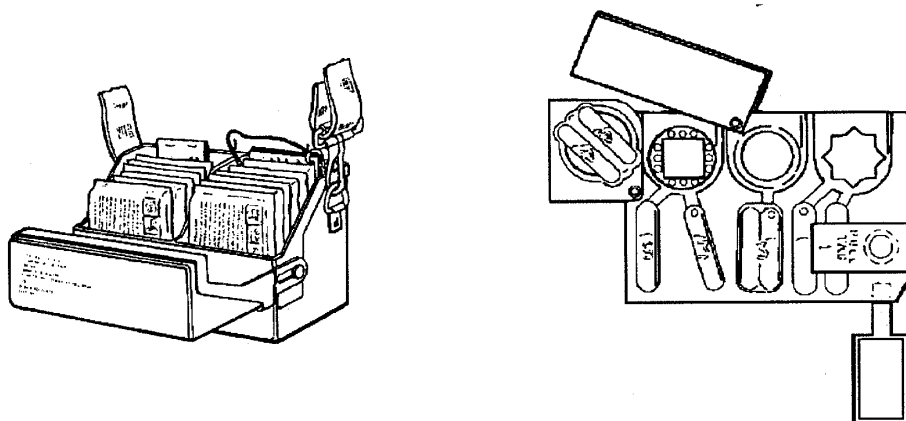

Figure 5-8. M256 Chemical Agent Detector Kit
d. The M256-series chemical agent detector kit (Figure 5-8) is issued at squad, crew, or section level. It provides a squad-level ability to detect and identify field concentrations of nerve blister, or blood agent vapors. It differentiates between classes of agents and helps determine when unmasking may be safe after a chemical attack. The kit consists of 12 individually packaged samplers/detectors, a set of instruction cards, and a packet of ABC-M8 VGH chemical agent detector paper. These components come packed in a small, compact, plastic case. Each sampler/detector detects harmful vapor concentrations of nerve, blister, and blood agents. It changes color upon contact with chemical agents at concentrations hazardous to an unmasked person. See TM 3-6665-307-10 for further information.